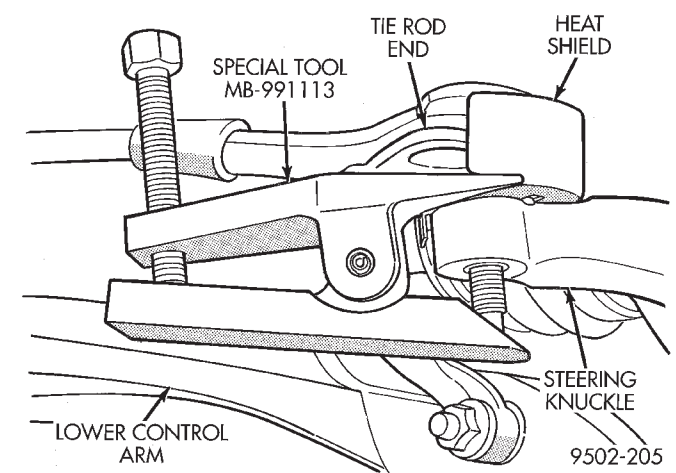

Fig. 8 Tie Rod End Removal from Steering Knuckle
(10) Remove the tie rod end stud from steering knuckle arm, using remover, Special Tool MB-991113 (Fig. 8).